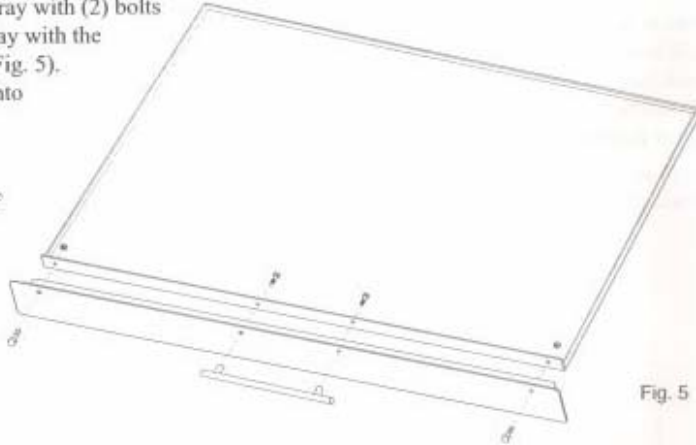

Fig. 5
Remove the grease tray from the front of the unit (below the control console). Remove the protective plastic from the front panel and attach to the front lip of the grease tray with (2) bolts and nuts. Attach the handle to the tray with the (2) bolts supplied with the handle (Fig. 5). Do not reassemble the grease tray into the unit at this time.